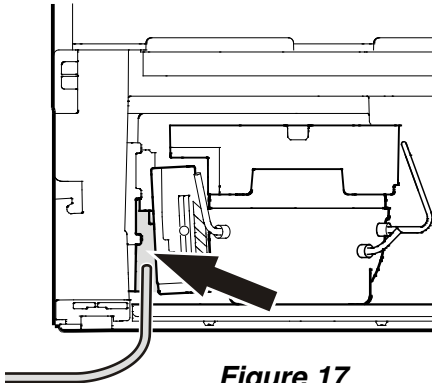

**Figure 16**
- Insert the water strainer supplied into the valve connector (**Figure 16**).